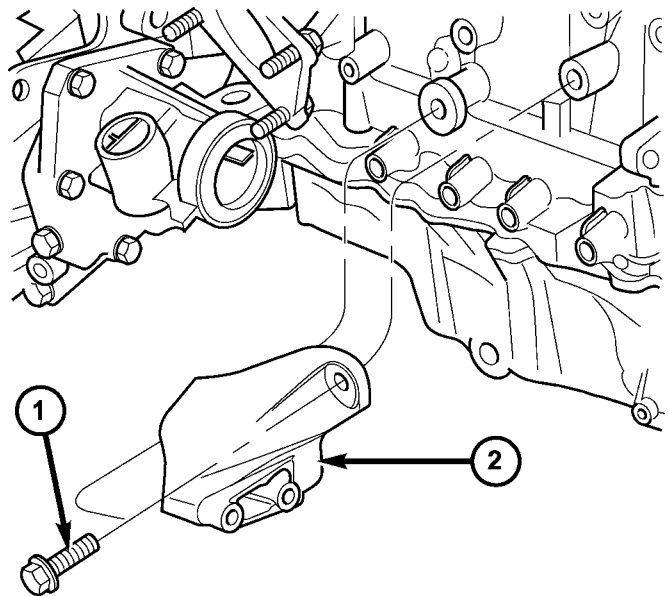

Fig. 2 Intermediate Shaft Support Bracket—2.4L Turbo Models
- 2 - BOLT (2)
(4) Inspect transaxle output seal and replace as necessary.
(5) If necessary to remove support bracket, remove two (2) support bracket-to-engine block bolts and remove bracket (Fig. 2).
(1) If support bracket was removed, install support bracket into position. Install two (2) support bracket-to-engine block bolts and torque to 54 N·m (40 ft. lbs.) (Fig. 2).